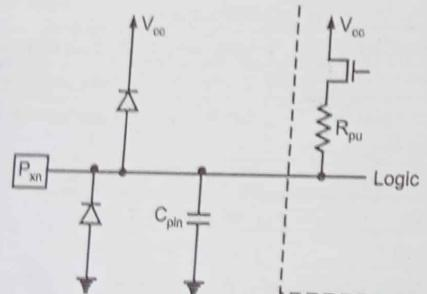

Fig. 2.9: Schematic of I/O pin equivalent
- All port pins have individually selectable pull-up resistors with a supply-voltage invariant resistance as shown in Fig. 2.9.
All I/O pins have protection diodes to both V_{CC} and Ground as indicated in Fig. 2.9.